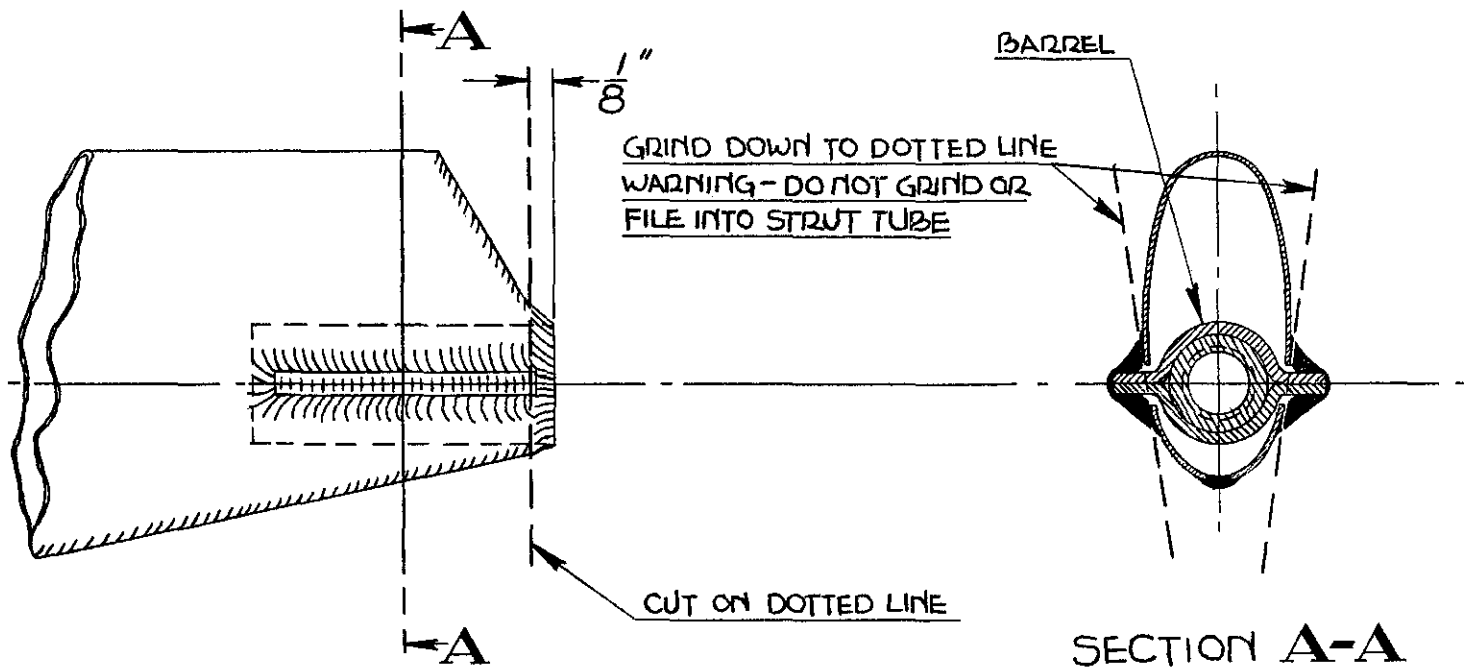

FIG. 1
2. Cut off 1/8" of the strut at the end from which the fork was removed. (This will remove the end of the old barrel which is welded inside the strut.) (See Figure 1)
3. Grind or file off the flanges and adjacent weld on both sides of the barrel assembly. (See figure 1)